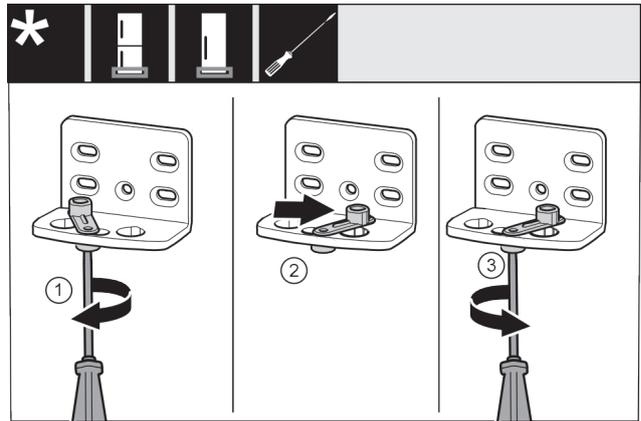

Fig. 46 *
- ▶ Use screwdriver to loosen the screw Fig. 46 (1).*
- ▶ Lift the door closing aid Fig. 46 (2) and turn 90° clockwise in the hole.*
- ▶ Tighten screw Fig. 46 (3) with screwdriver.*